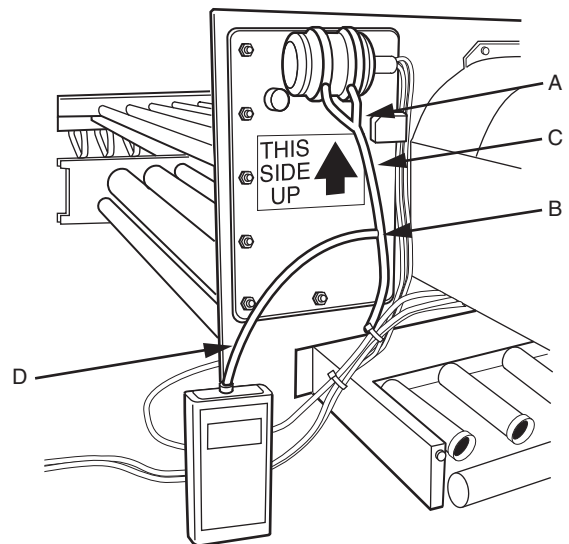

Fig. 87 — Draft Fan Pressure Measurement
1. Remove air pressure supply tube from fan at pressure switch connection. See Fig. 87, A.
2. Insert “T” into supply tube. See Fig. 87, B.
3. Attach additional piece of tubing from “T” to pressure switch. See Fig. 87, C.
4. Connect remaining leg of “T” to pressure measuring device (measure in. wg). See Fig. 87, D.